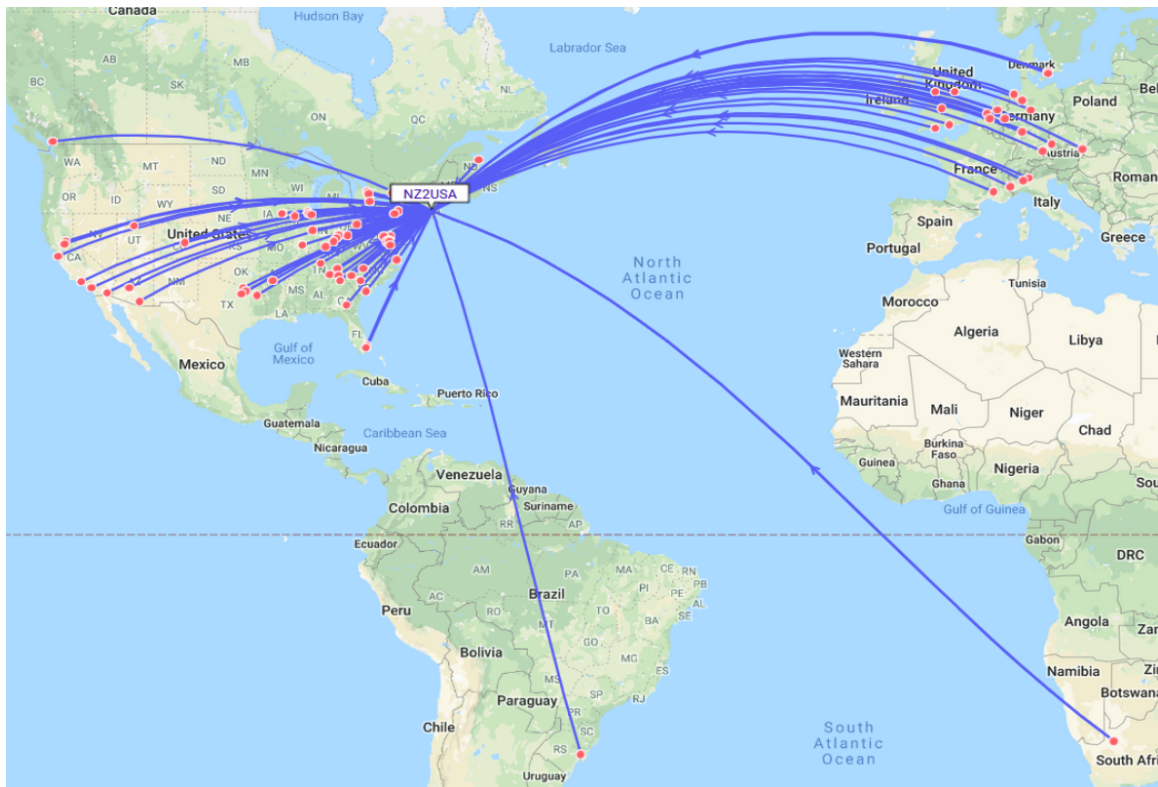

Figure 3: 40m (7,038,600 Hz) WSPR locations received in a 12 hour recording session using the BareBonesWSPR.ino with an indoor magnetic-loop antenna.
I have included a `BareBonesWSPR.ino` sketch in the AudioSDR examples folder. It is an attempt to create a minimal, stripped-down, but fully functional SDR example that has been working unattended for several weeks. Figure 3 shows the stations received on a single overnight reception period using `BareBonesWSPR`.
**A database interrogation and display program:** to download and display maps and database search information. The map in Fig. 3 was generated by <http://wspr.vk7jj.com/>. Alternatively you can use <http://wsprnet.org/drupal> and click on "maps" or "database".